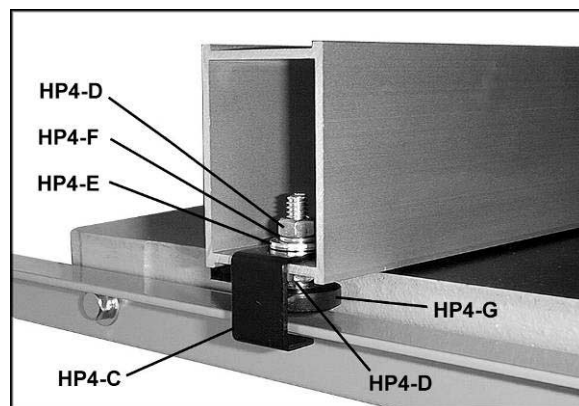

Figure 29
4. At the rear of the fence, thread a *1/4" hex nut* (HP4-D, Figure 29) onto the *sliding pad* (HP4-G) and insert the sliding pad through the fence and *rear hook* (HP4-C). Secure in place using a *1/4" flat washer* (HP4-E), *1/4" lock washer* (HP4-F) and a *1/4" hex nut* (HP4-D). The rear hook should be adjusted so that it overlaps the rear rail by approximately 1/8".
Refer to Figures 29 through 31.
4. Adjust the height of the sliding pad at the rear of the fence (Figure 29) if further adjustment is needed to even the gap along the length of the fence.